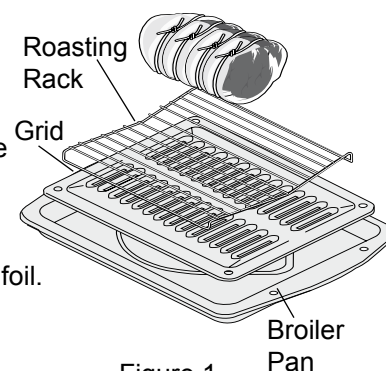

Figure 1
- Use the broiler pan and grid, and the roasting rack (Figure 1). The broiler pan will catch grease spills and the grid will help prevent spatters. The roasting rack will hold the meat.